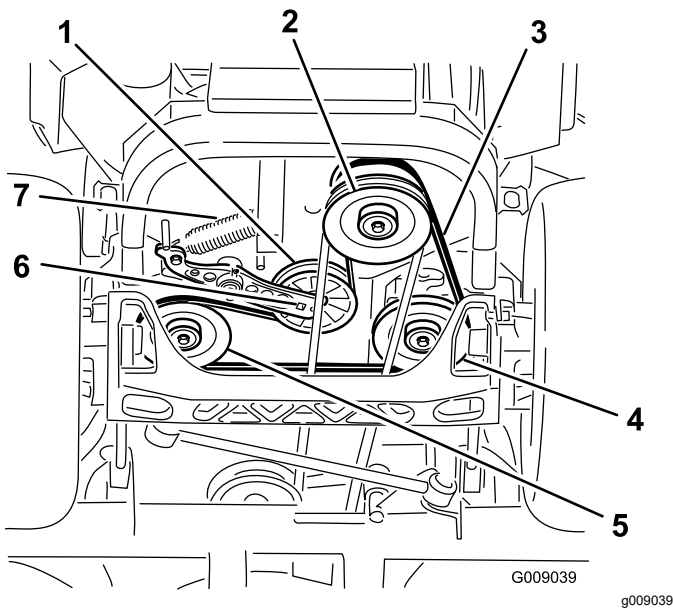

Figure 85
4. Raise the machine and support it with jack stands (Figure 85).
5. Use a ratchet in the square hole in the idler arm to remove the idler spring (Figure 85).
6. Unhook the idler spring from the frame (Figure 85).
9. Using a ratchet in the square hole in the idler arm, install the idler spring to the frame (Figure 85).